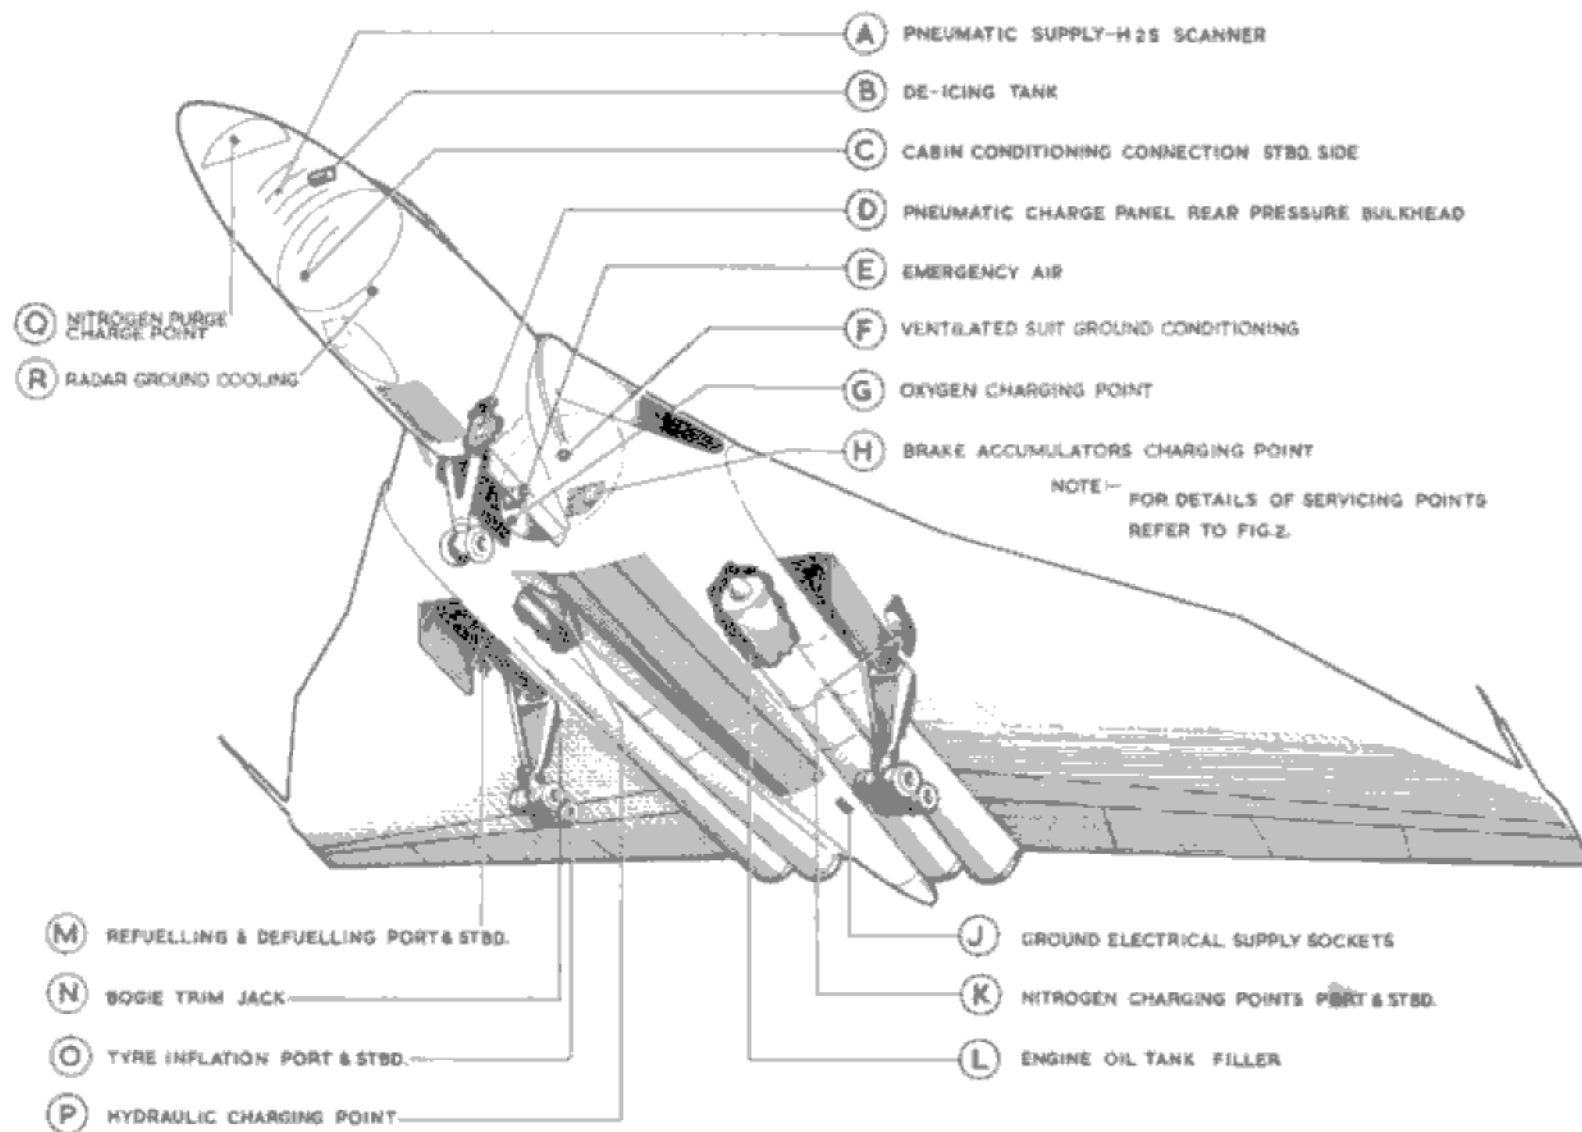

Fig. 1. Location of servicing points
1. This chapter gives information on the general preparation of the aircraft for flight. Servicing and replenishing points are illustrated on fig.1 and 2. Specifications for oil, fuel, etc., are given in the Leading Particulars. The method of using the fluid pressurised replenishing can, (Ref.No.4G/5358), referred to in para.7 and 8, is detailed in A.P.1464B, Vol.1, Part 2, Sect.3, Chap.6.